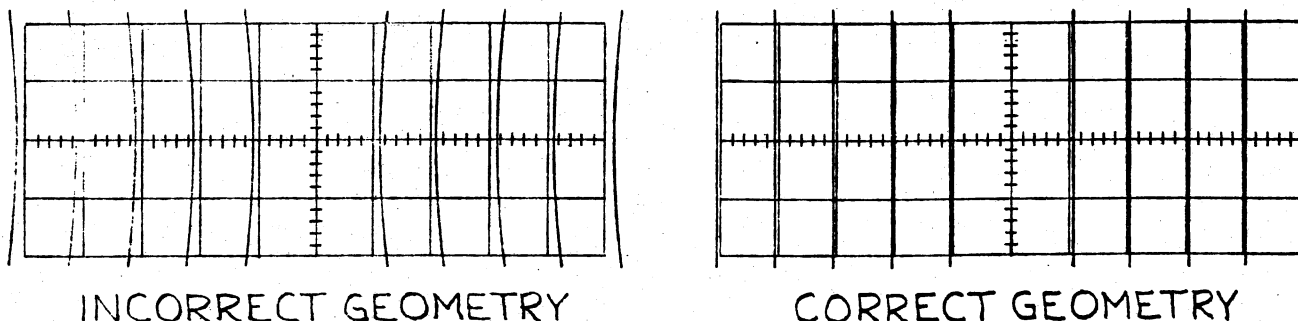

Figure 1. Geometry Displays
4.8.5 Verify that the displayed vertical lines are parallel and approximately coincident with the graticule lines. See figure 1.